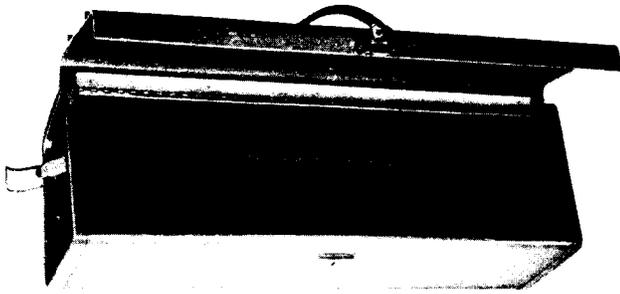

Fig. 5—B Connector Case
3.24 The B connector case (Fig. 5) consists of a lightweight plastic box with a hinged cover, a carrying handle, a latch, and two snap catches.